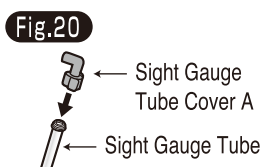

Fig.21
b) Holding the Sight Gauge Tube Cover A of the Sight Gauge Tube, insert the bottom portion of the Sight Gauge Tube back in its place. **Fig.21**